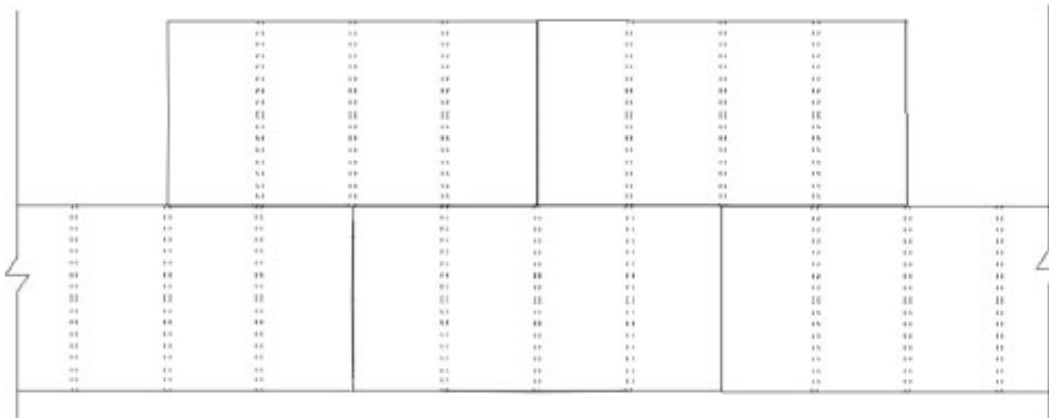

Fig. 19
5. Install subsequent rows of insulation board in a running bond pattern (vertical joints staggered) as shown in Figure 19.